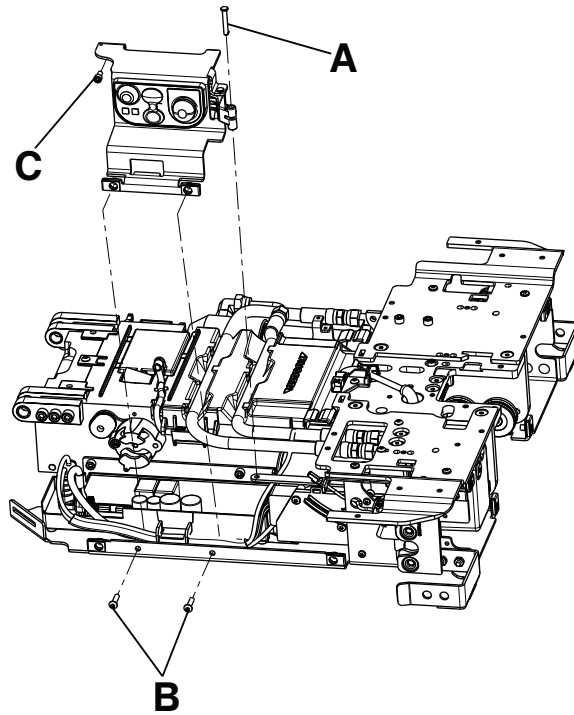

Figure 13 – Manual release button assembly
4. Remove the slic pin (A) from the switch/bracket assembly (Figure 13). Save the pin.
5. Using a T25 Torx driver, remove the two button head cap screws (B) that secure the manual release button bracket to the trolley frame (Figure 13). Save the screws.
6. Using a 5/32" hex wrench, loosen (do not remove) the socket head cap screw (C) that secures the manual release button bracket to the trolley frame (Figure 13).